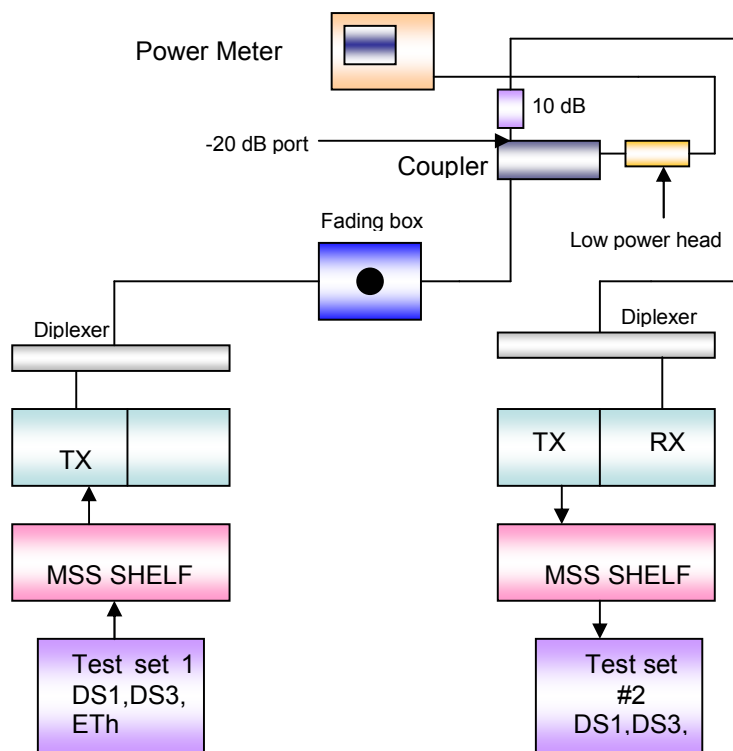

Figure 9 Threshold Setup
- Connect as shown in figure 9